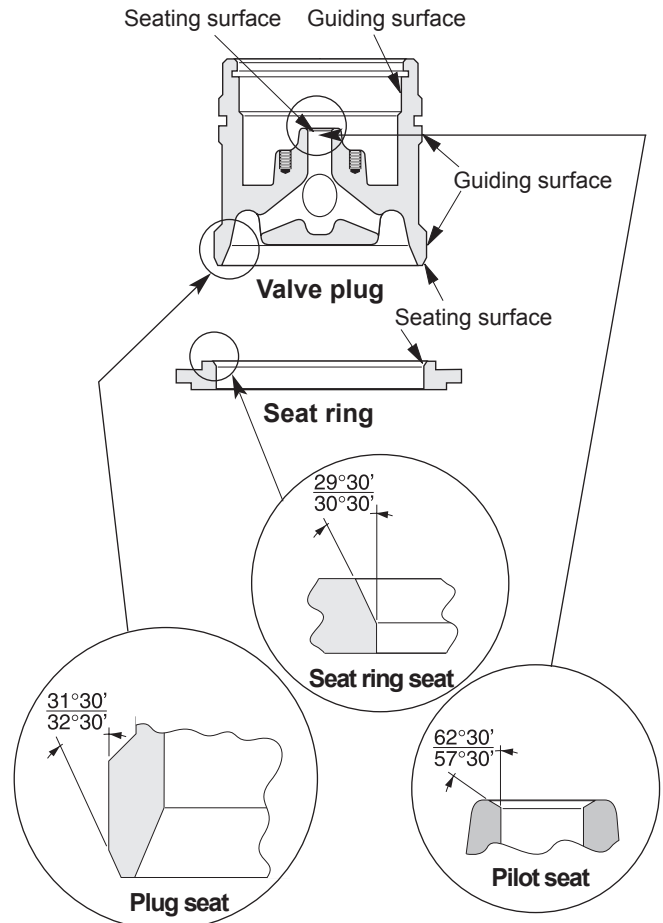

Figure 6 - Typical Seating Angles
3. Place seat ring (13) in the body, noting the seating angle is up.
5. Assemble the cage (10) and (if applicable) cage retainer (11) and the plug assembly (8) into the valve body (1) per the valve plug assembly instructions.
6. Assemble the bonnet (2) and the guide bushing (20) if required.
7. Place an appropriate tool on the valve stem (7) thread to allow for manual rotation.
10. After lapping, disassemble the parts to clean them and then reassemble, making sure the seating angles are within tolerance. See Figure 6.